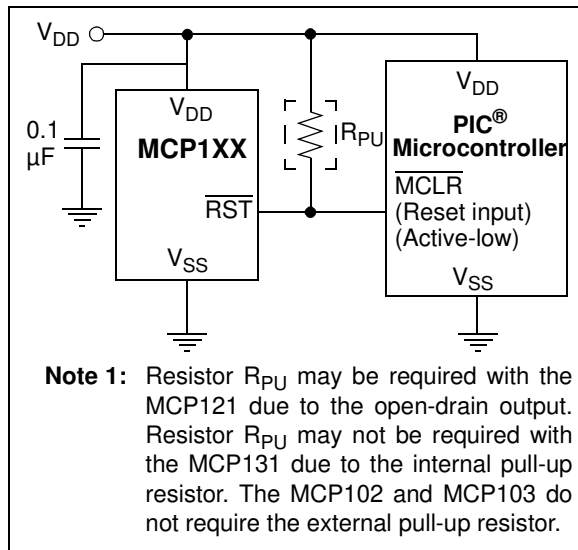

FIGURE 4-1: Typical Application Circuit.
**Note:** Unless otherwise indicated, all limits are specified for:  $V_{DD} = 1V$  to  $5.5V$ ,  $R_{PU} = 100\text{ k}\Omega$  (MCP121 only; see Figure 4-1),  $T_A = -40^\circ\text{C}$  to  $+125^\circ\text{C}$ .
**Note:** Unless otherwise indicated, all limits are specified for:  $V_{DD} = 1V$  to  $5.5V$ ,  $R_{PU} = 100\text{ k}\Omega$  (MCP121; see Figure 4-1),  $T_A = -40^\circ\text{C}$  to  $+125^\circ\text{C}$ .
**Note:** Unless otherwise indicated, all limits are specified for:  $V_{DD} = 1V$  to  $5.5V$ ,  $R_{PU} = 100\text{ k}\Omega$  (**MCP121** only; see Figure 4-1),  $T_A = -40^\circ\text{C}$  to  $+125^\circ\text{C}$ .
For many of today's microcontroller applications, care must be taken to prevent low-power conditions that can cause many different system problems. The most common causes are brown-out conditions, where the system supply drops below the operating level momentarily. The second most common cause is when a slowly decaying power supply causes the microcontroller to begin executing instructions without sufficient voltage to sustain volatile memory (RAM), thus producing indeterminate results. Figure 4-1 shows a typical application circuit.
A 0.1  $\mu\text{F}$  bypass capacitor, mounted as close as possible to the  $V_{DD}$  pin, provides additional transient immunity (refer to Figure 4-1).